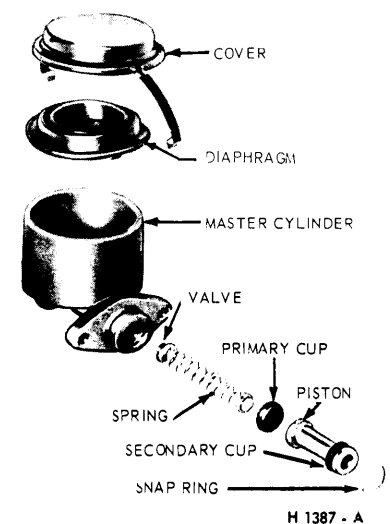

FIG. 23—Master Cylinder—Disassembled
1. Press in against the piston removing the snap ring retainer, and then remove the piston assembly, cup, spring, residual check valve and seat (Fig. 23).
1. Clamp the master cylinder housing in a vise. Dip the hydraulic cylinder parts in brake fluid and assemble the check valve seal, residual check valve, and piston return spring in the bore of the cylinder in the order shown in Fig. 23.